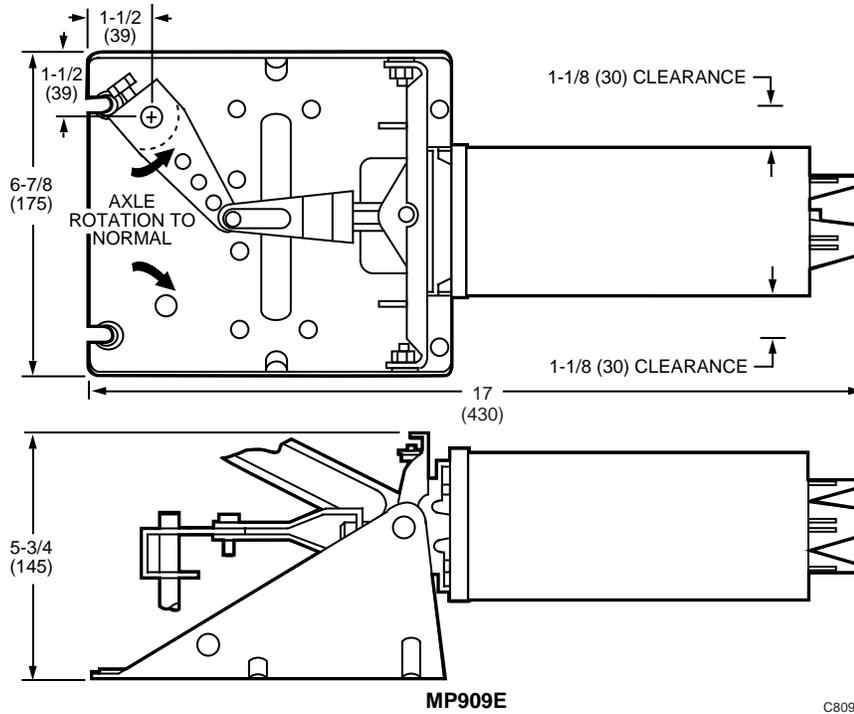

Fig 1. External Mounting Dimensions in Inches (Millimeters).
- 1 For external mounting dimensions, see Figure 1.